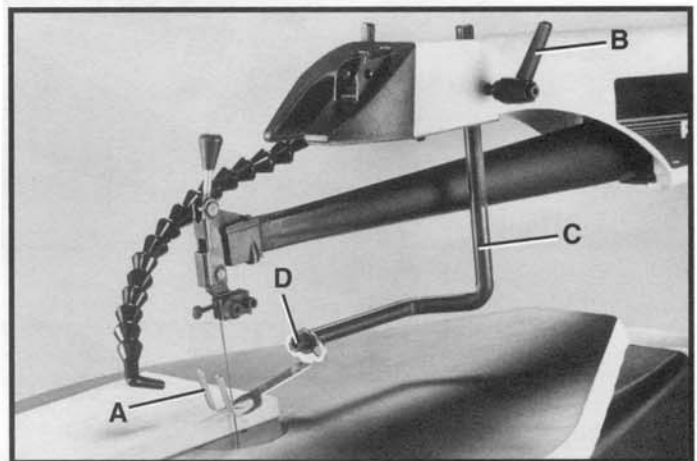

Fig. 24
1. The holddown (A) Fig. 24, should be adjusted so it contacts the top surface of the work being cut by loosening lock handle (B) and moving holddown rod (C) up or down. Then tighten lock handle (B).
2. When bevel cutting (table tilted), the holddown (A) Fig. 24, can be tilted to match the angle of the table by loosening screw (D), tilting holddown (A) and tightening screw (D).